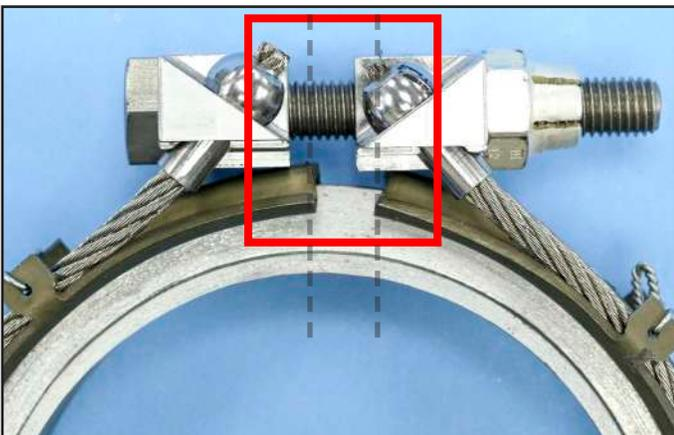

Figure 3.3 - **Improper** Alignment of Tensioners to Retainers
- (4) Inspect the tensioners at position 3 to make sure they are supported by the retainers (1) on each side and not unsupported. Ensure tensioners are sitting top center of retainers. Refer to Figures 3-3 & 3-4 for proper and improper alignment examples.